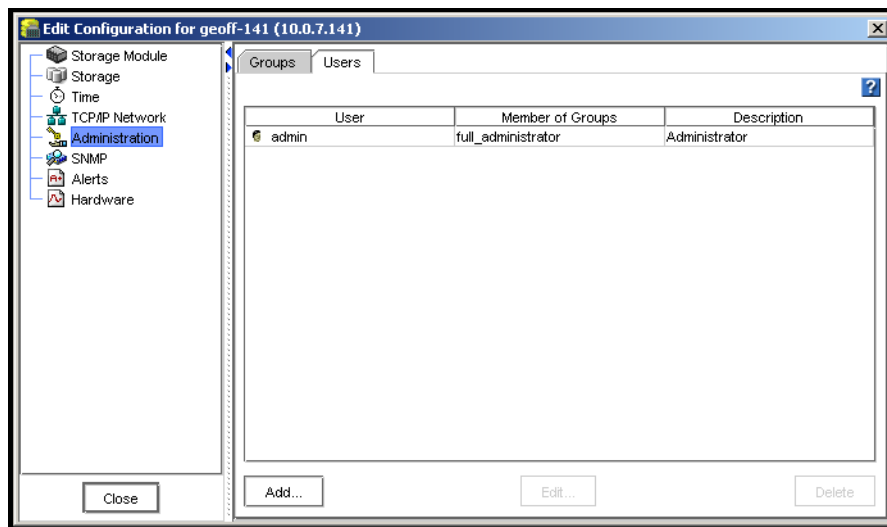

Figure 86. Adding Administrative Users
2. Click the Users tab to bring it to the front, shown in Figure 86.